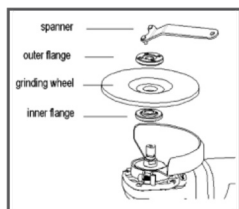

Fig3
1. Mount the inner flange onto the spindle, feed the wheel/disc on the inner flange and screw the outer flange onto the spindle (Fig. 3)